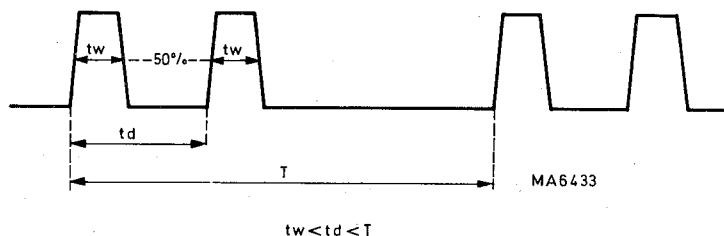

Fig. VI-6. Time settings at double-pulse operation
In the DOUBLE pulse mode, the relationship between repetition time, pulse width and delay time must be as shown in Figure VI-6. The relationship $t_w < t_d < T$ implies that the duty cycle has to be less than 50 %.
- Check that the relationship between pulse width, delay time and repetition time is correct ($t_w < t_d < T$). See Figure VI-6.